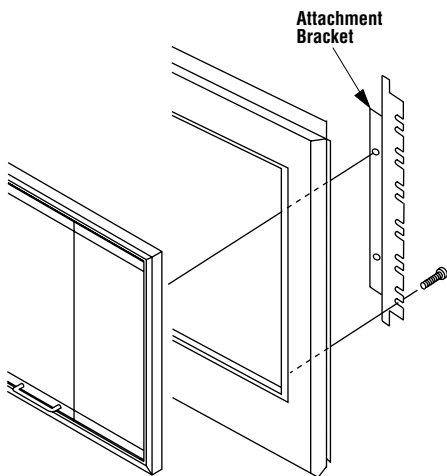

Figure 2
Step 1. Lay the frame face down on a clean, soft surface to avoid scratching the brass. Note the two Phillips Screws mounted to Tinnerman nuts on each of the side panels, loosen these screws to allow adjustment of the position of these Tinnerman nuts. Position the nuts to align with the round holes on the Estate 48 attachment brackets (see Figure 2). **Do Not attach brackets to the door at this time.**